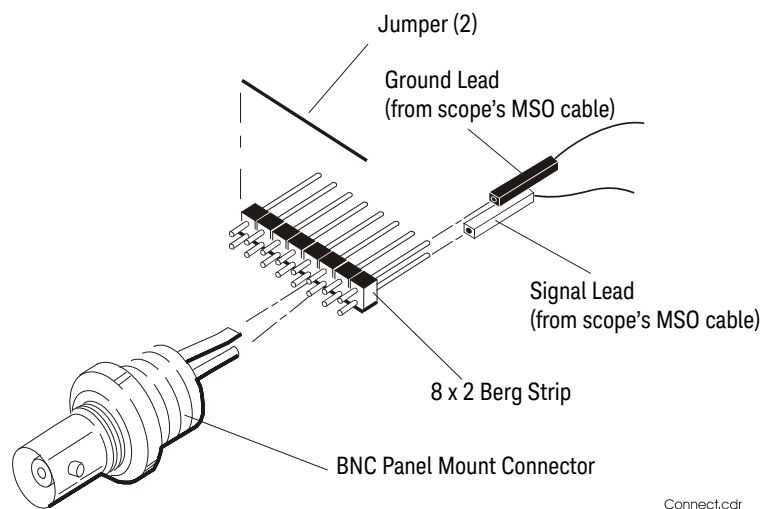

Figure 1 Constructing the 8-by-2 Connector
- On one side of the Berg strip, solder a jumper wire to all of the pins (shown in **Figure 1** on page 24).